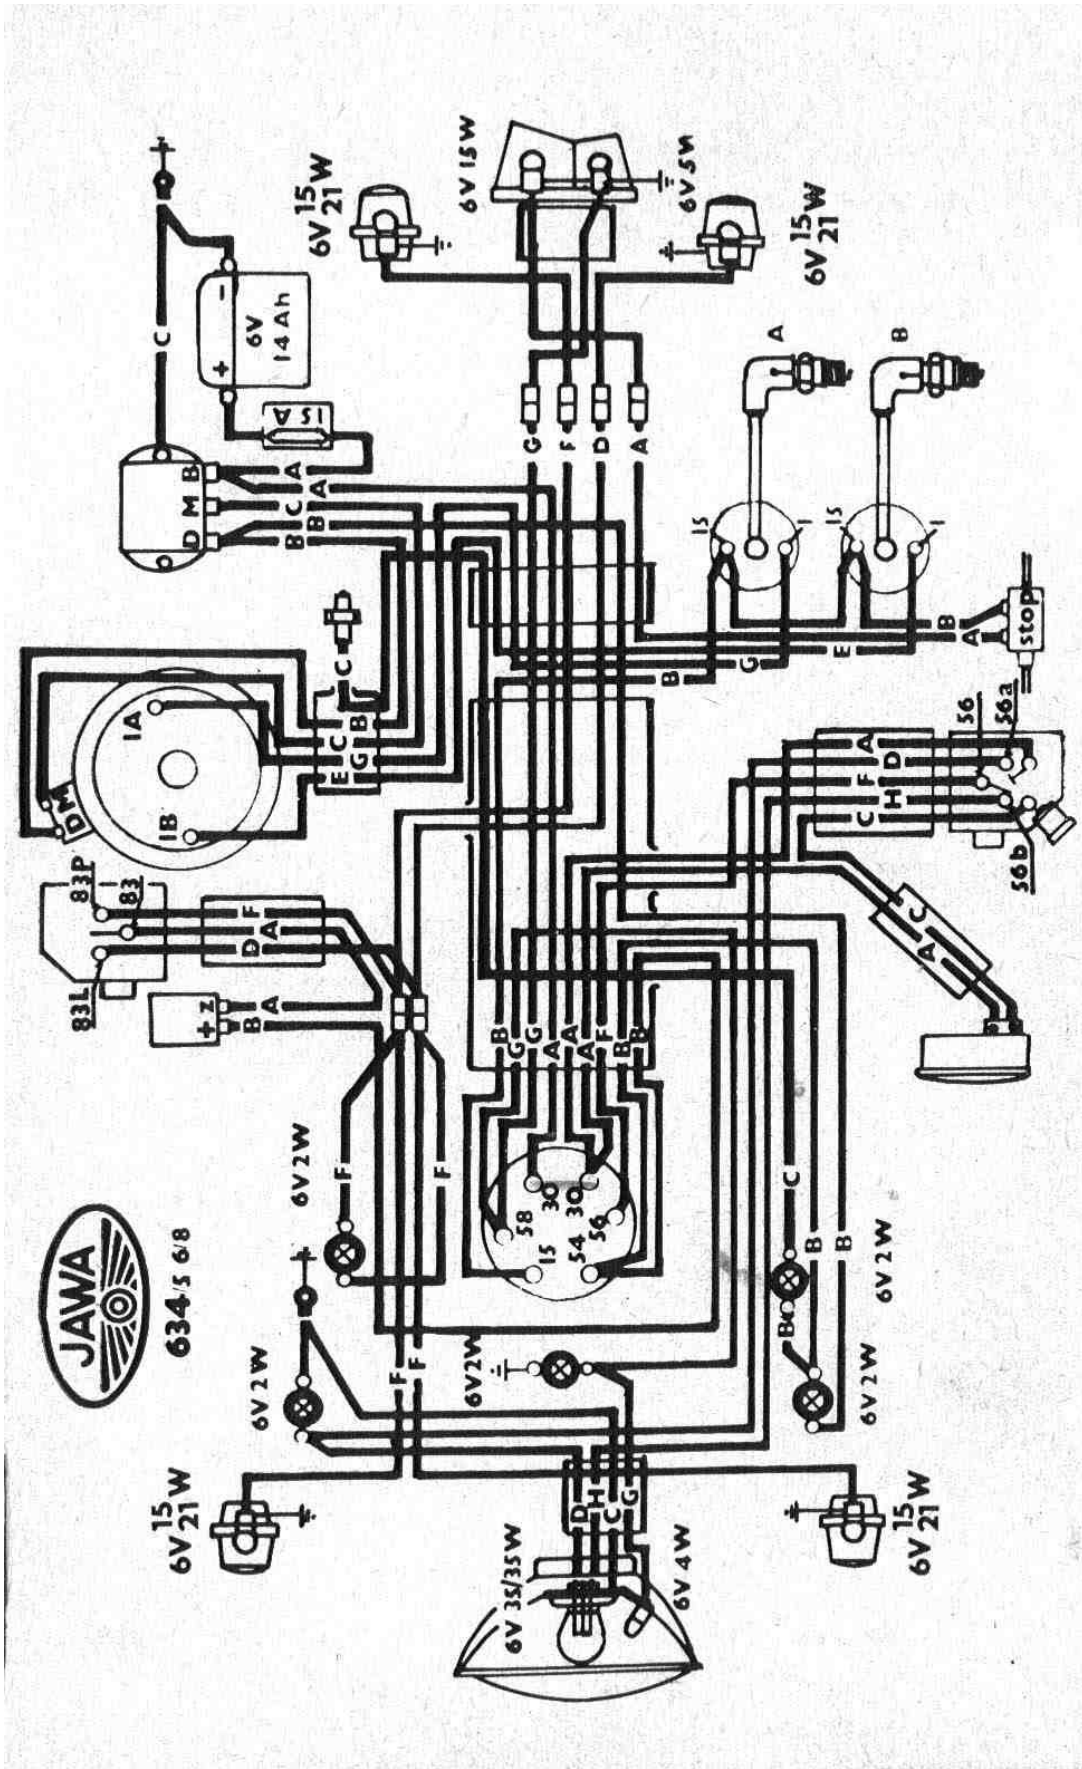

Fig. 6 - Diagram of electrical installations
3. DESCRIPTION OF ELECTRICAL EQUIPMENT (Fig. 6)